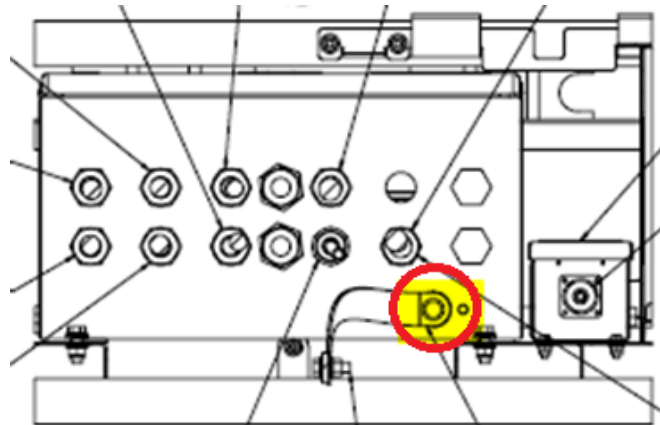

Figure 15: HV Fuse Box Upper Ground Strap Connection
50. Ensure the M8 bolt at the upper ground strap connection for the High Voltage Fuse Box circled below in Figure 15 is torqued to 13 ft-lbs.